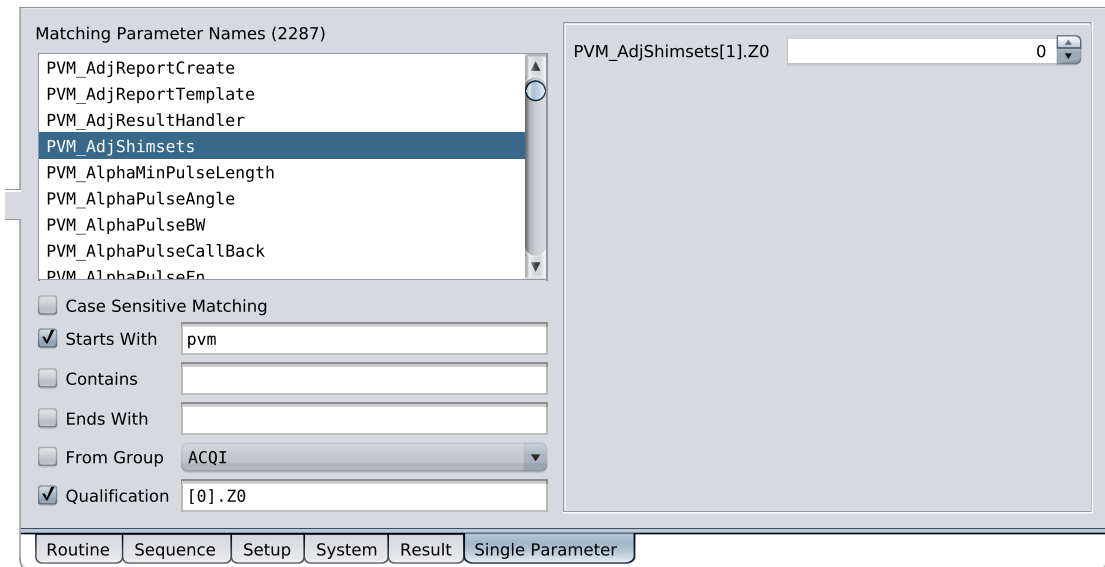

Figure 1.51: Single Parameter Card
- Except for the last Parameter Card (Single Parameter) the layout and content of the Parameter Cards are defined by the adjustment. Please consult the adjustment documentation for a description of the available parameters and their meaning. The Single Parameter Card (see [Figure 1.51 \[68\]](#)) gives access to all parameters defined by the adjustment and is intended for expert use only. The parameter selection offered in the list can be filtered by entering strings into the Starts With, Contains or Ends With text fields. Selecting **From Group** allows to restrict the offered parameters to a single parameter group. Complicated struct parameters or arrays may be simplified by entering a **Qualification**.